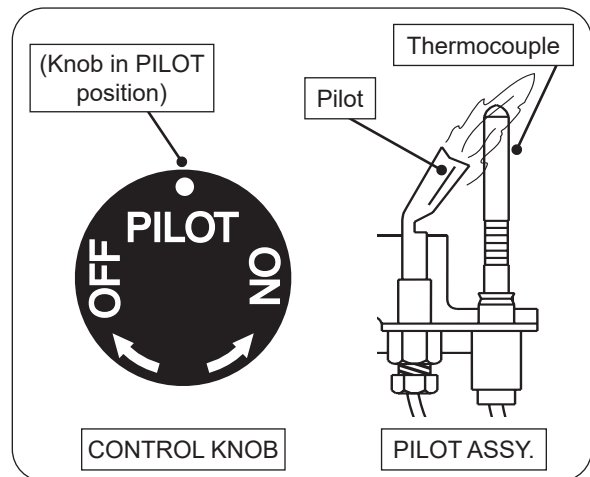

Fig. 23-1 Pilot lighting
3. Locate the pilot assembly on the side or the rear of the burner pan (see Fig. 23-1).
4. Turn the control knob counterclockwise  to **PILOT**. Push the knob **firmly and fully** in and hold. Hold a lighted long-stem match/ long-necked butane lighter near the thermocouple to light the pilot. Continue to hold the knob in for about one (1) minute after the pilot is lit. Release the knob and it will pop back out. The pilot will remain lit. See Fig. 23-1. If it goes out, repeat steps 2-4.